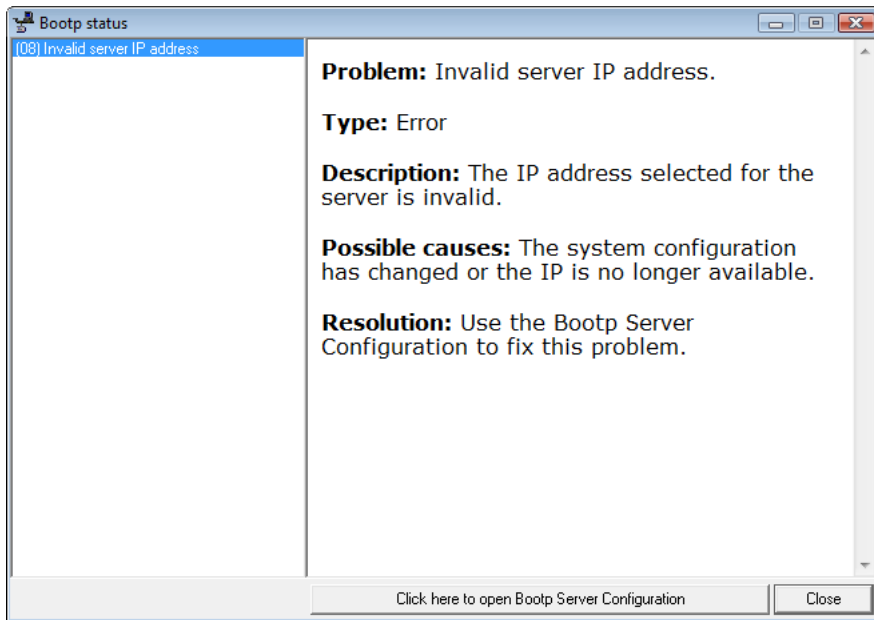

Figure 9-1 Example of the Bootp Status dialog box
- c) In the **Bootp Status** dialog box (see Figure 9-1 on page 437):